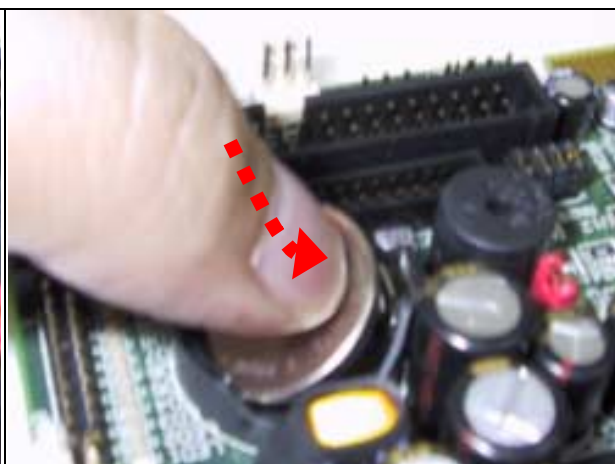

Fig. 2-15 Restore the battery
2. Replace it with a new one by pressing the battery with fingertip to restore the battery (**Fig. 2-15**).